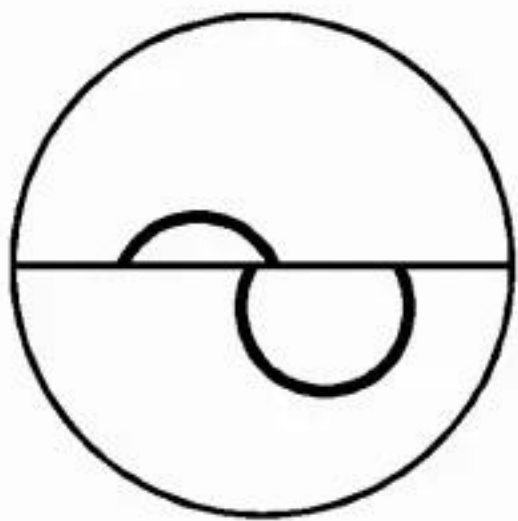

Fig. 7
- E. Location of fluorescence ring is too low. Enhance slit lamp (Fig. 7).